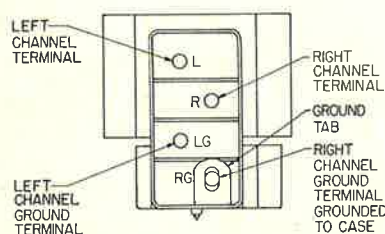

FIGURE 2
**CONNECTIONS:** The Model M44 Cartridge utilizes a 4-terminal arrangement for connections having a separate ground terminal for each channel. (See Figure 2).
**NOTE:** Before making any connections, refer to the arm or changer instructions to properly identify the right and left channel arm leads. **CAUTION:** Do not make any solder connections directly to the cartridge terminals, nor to the terminal pin jacks while they are attached to the cartridge terminals. Solder the leads to the pin jacks before slipping them over the terminals. If hum is experienced when cartridge is installed in a metal head shell, removal of the ground tab from the right ground terminal will probably correct the condition. (See Figure 2).